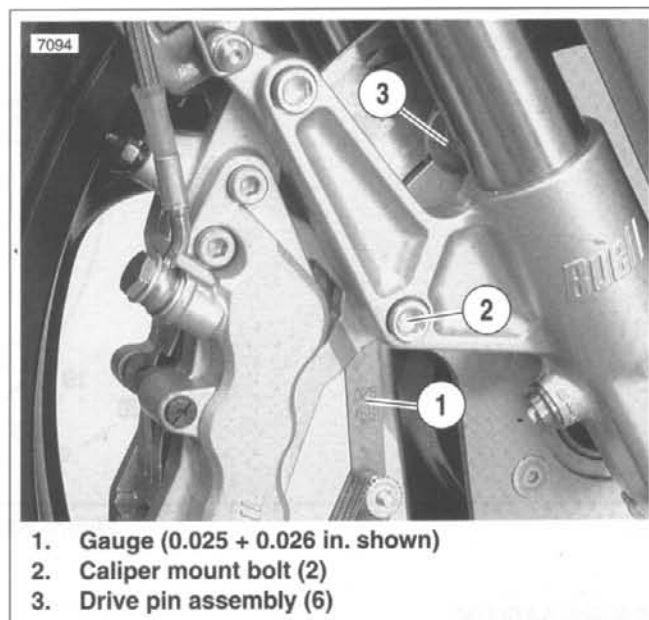

Figure 2-9. Checking Drive Pins
4. Tighten the four front axle pinch screws (2) (metric) to 13-15 ft-lbs (17.6-20.3 Nm).
6. See Figure 2-9. Inspect each drive pin assembly. There must be a minimum clearance of 0.050 in. (1.27 mm) between drive pin assembly and caliper mount bolts.